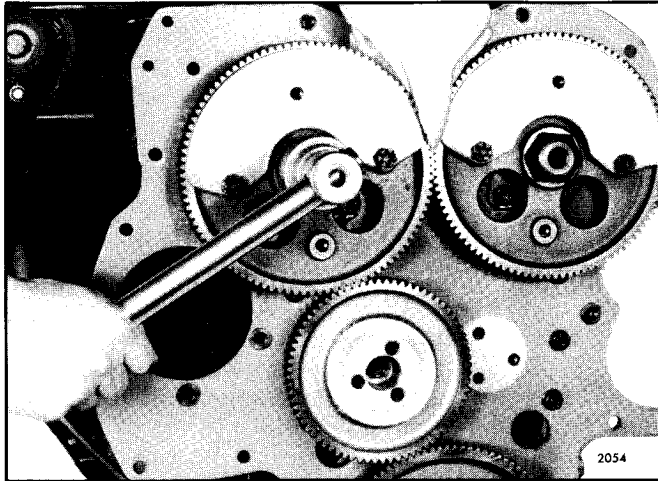

Fig. 1 - Removing or Installing Nut on Camshaft or Balance Shaft
7. Wedge a clean rag between the gears and remove the nuts from each end of both shafts with a socket wrench (Fig. 1).
5. Wedge a clean rag between the gears and remove the gear retaining nut from each end of the camshaft (Fig. 1).